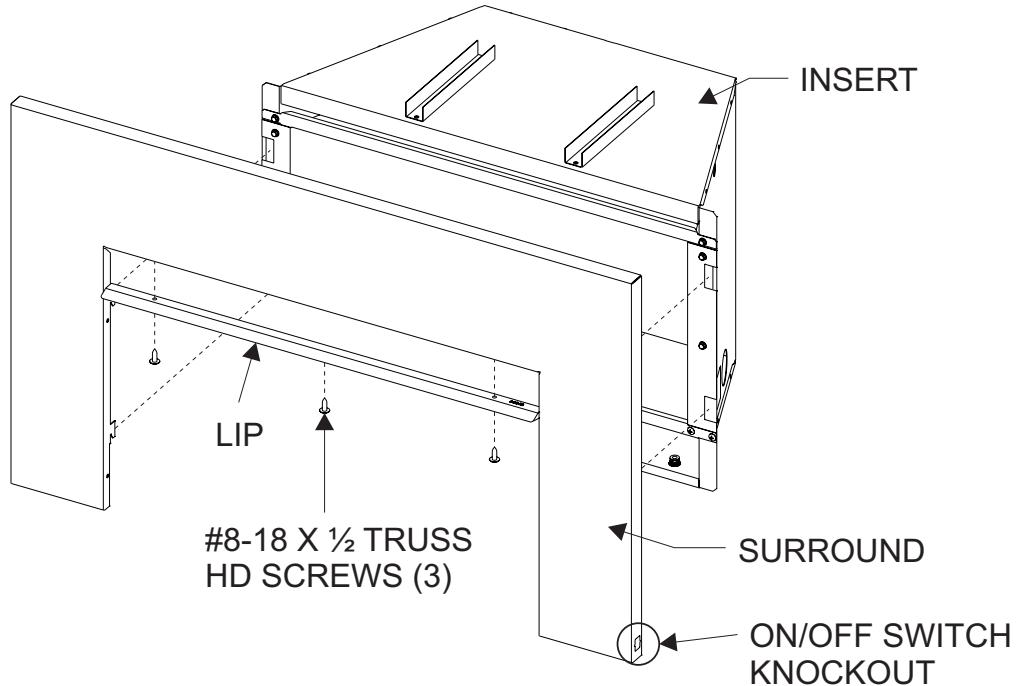

Figure 9
3. Align the mating holes and install three #8 X 1/2" Philips Truss Head screws to secure. **See Figure 9.**